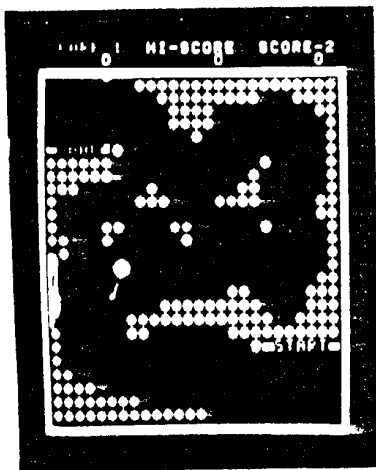

Fig. 16
- ④ A white face will appear at the left hand side of the screen in the LEVEL-1 pattern. The computer controlled balloon will move to the top right hand side of the screen while being blown by the wind. After a lapse of several seconds a second face will appear at the right hand side of the screen and blow the balloon about until it bursts (Fig. 16). The above steps ① to ④ will be repeated continuously by way of demonstration until a coin is inserted.